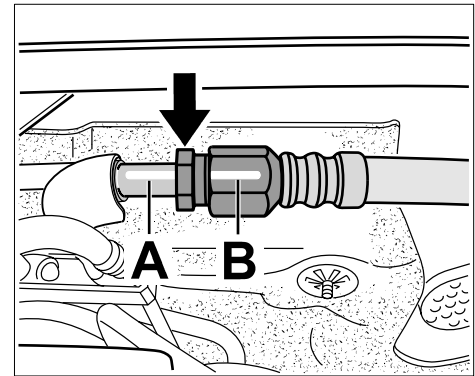

Figure 3
- 4.1 Place several cloths underneath the connection point at the plenum panel ⇒ *Figure 3* to absorb the fuel that emerges when you open the fuel line.
The markings at the connection point ⇒ *Figure 3 -A-* and on the hexagon on the fuel line ⇒ *Figure 3 -B-* are required for positioning the fuel line correctly at the connection point and must not be removed.
- 4.2 Counter at the hexagon on the fuel line and relieve the fuel pressure at the connection point at the plenum panel ⇒ *Figure 3 -arrow-* by slowly opening the threaded joint on the fuel line. Absorb emerging fuel.